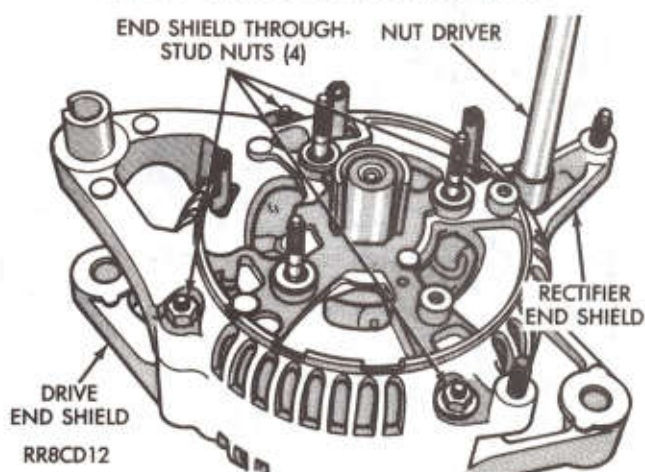

Fig. 11—Remove or Install Through-Stud Nuts
(6) Remove end shield attaching through-stud (4) nuts (Fig. 11).